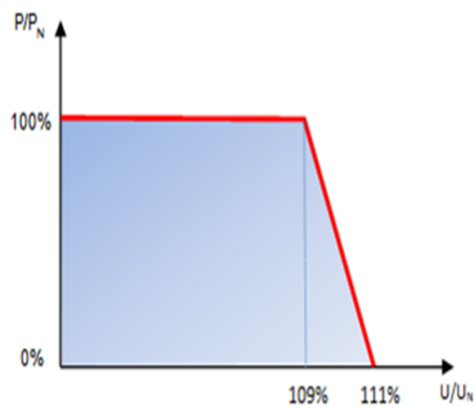

Figure 3
- P(U) function can be set to the values of figure 3 by following the service manual.